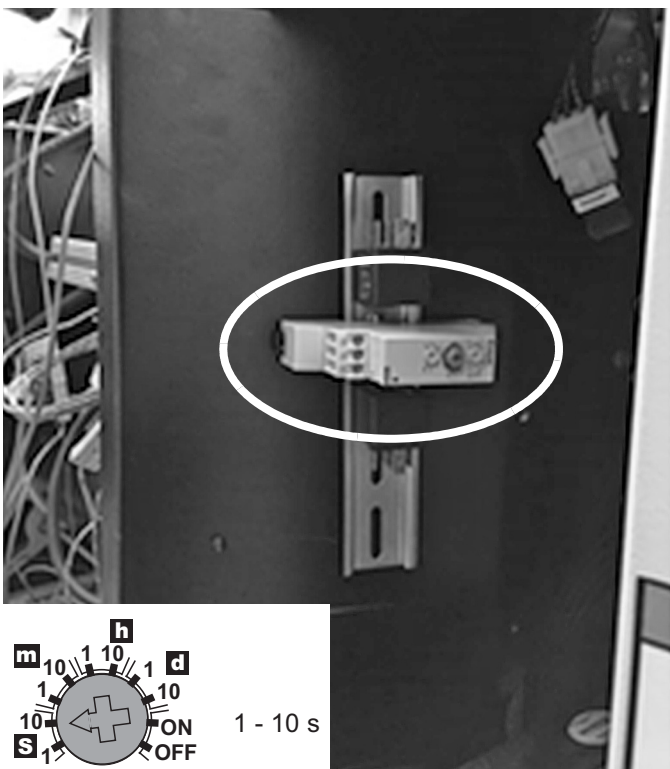

Figure 3-1.**Figure 3-2.**
2. Drill two (2) holes in the engine divider, and mount DIN rail (make sure not to damage decals). Remove any metal debris after drilling. (see Figure 3-1)